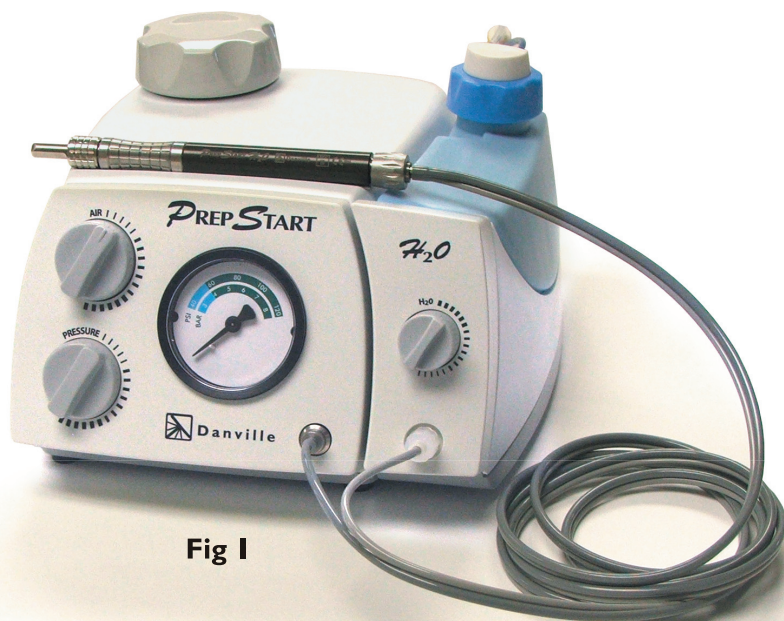

Fig 1
7. Attach the new H₂O cover by installing the plastic clip in the front of the cover into the metal bracket on the front bezel, ensure the plastic clip is fully engaged in the metal bracket, pivot the rear of the cover down and align the four (4) screw bosses in the base and the cover. Replace the four (4) screws previously removed and tighten, caution do not over-tighten the screws. Replace the O-ring and abrasive jar cap. The cover and base should be even (see picture).
8. Install the H₂O sidecar accessory using a #2 phillips screwdriver and the three (3) screws provided, leave them slightly loose for now.
9. View the PrepStart H₂O from the front of the unit and ensure the sidecar and PrepStart bezels are aligned vertically (see Fig 1), then tighten the screws, do not over-tighten.
3. Attach the hand piece to the front of the PrepStart H₂O, the dark gray tubing with the metal end attaches to the PrepStart abrasive exit port first, the clear luer style fitting attaches to the water unit (see Fig 1).